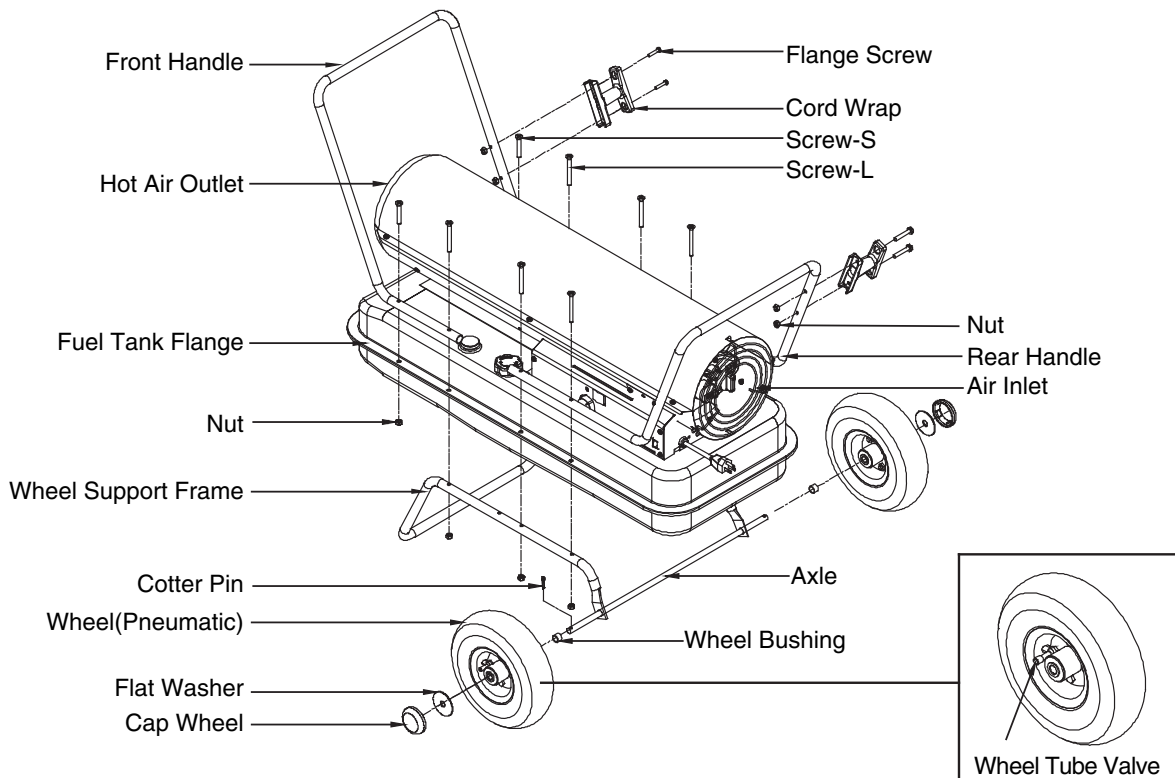

Figure 8. Assembling Handle, Wheel and Cord wrap
NOTE : When installing wheels, tube valve should face out from support frame (Figure 8).
Make sure air inlet end(rear) of heater is over wheels. Align the holes on fuel tank flange. Insert screws through handles(front and rear), fuel tank flange, and wheel support frame as shown in Figure 8 and attach nut finger tight after each screw is inserted.
7. Insert screws through cord wrap, handles as shown in figure 8 and attach nut finger tight after each screw is inserted.